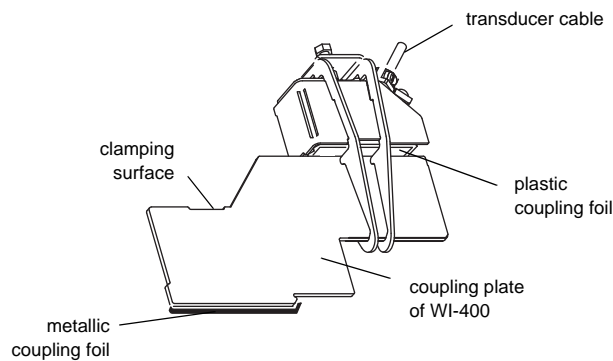

Fig. 3.9: Coupling plate in transducer clamping fixture
- Apply a plastic coupling foil (or a small amount of coupling compound for a short-time installation) along the transducer coupling surface of the coupling plate (see Fig. 3.9).
- Insert the coupling plate in the transducer clamping fixture. The transducer cable must show to the outer side of the coupling plate (see Fig. 3.9).
- Place a piece of the metallic coupling foil on the complete pipe coupling surface of the coupling plate. Bend the ends of the coupling foil onto the lugs of the coupling plates (see Fig. 3.9).
- Push a coupling plate with the mounted transducer in the coupling plate aperture of the pipe mounting fixture until the clamping surface is placed below the tensioning screw of the pipe mounting fixture (see Fig. 3.9).